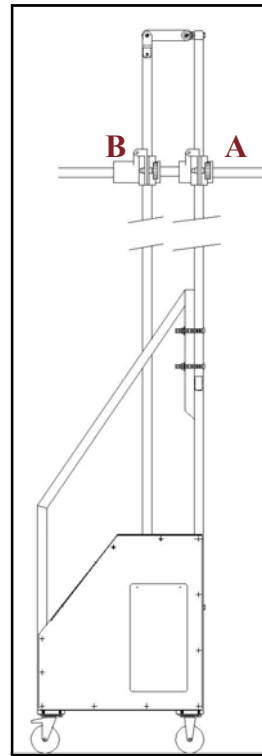

Figure 1
Each spray gun is mounted between two swivel blocks. The front block (A) is clamped to the gun, while the rear block (B) slides over the barrel of the gun. The precise positioning of the guns is achieved by slackening off the front block (A) and then sliding the gun through and re-tightening (see Figure 1).